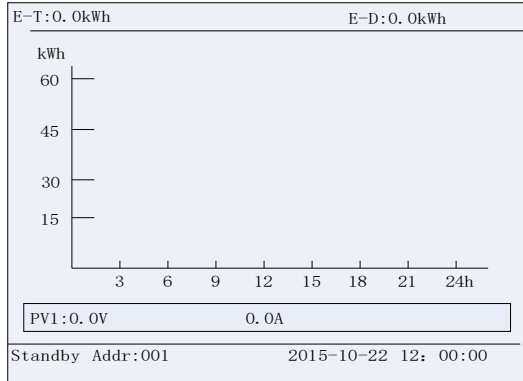

Figure 5-8 Normal Operation Status
- When the LCD screen shows the normal operation status (Figure 5-8) and the “RUN” light on the LED panel is illuminated, this is an indication that the grid connection and power generation are successful.